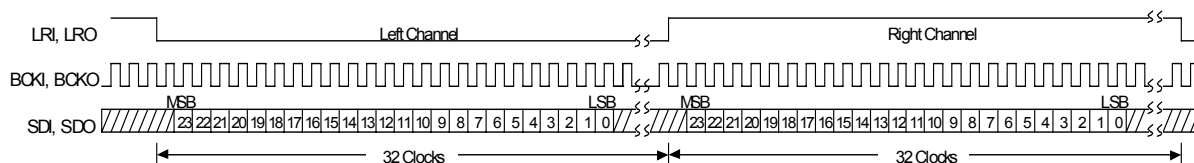
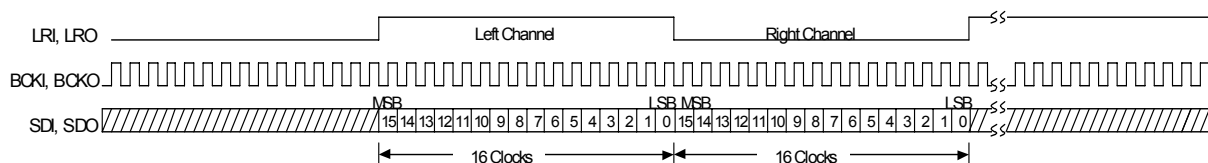

Fig8-1 I²S Data Format 64Fs, 24bit Data
Fig.8-6 Right-Justified Data Format 32Fs, 16bit Data
The NJU26060 Series can use three kinds of formats hereafter as industry-standard digital audio data format; (1) I²S (2) Left-justified (3) Right-justified and 16 / 24bits data length. (Fig.8-1 to Fig8-6)